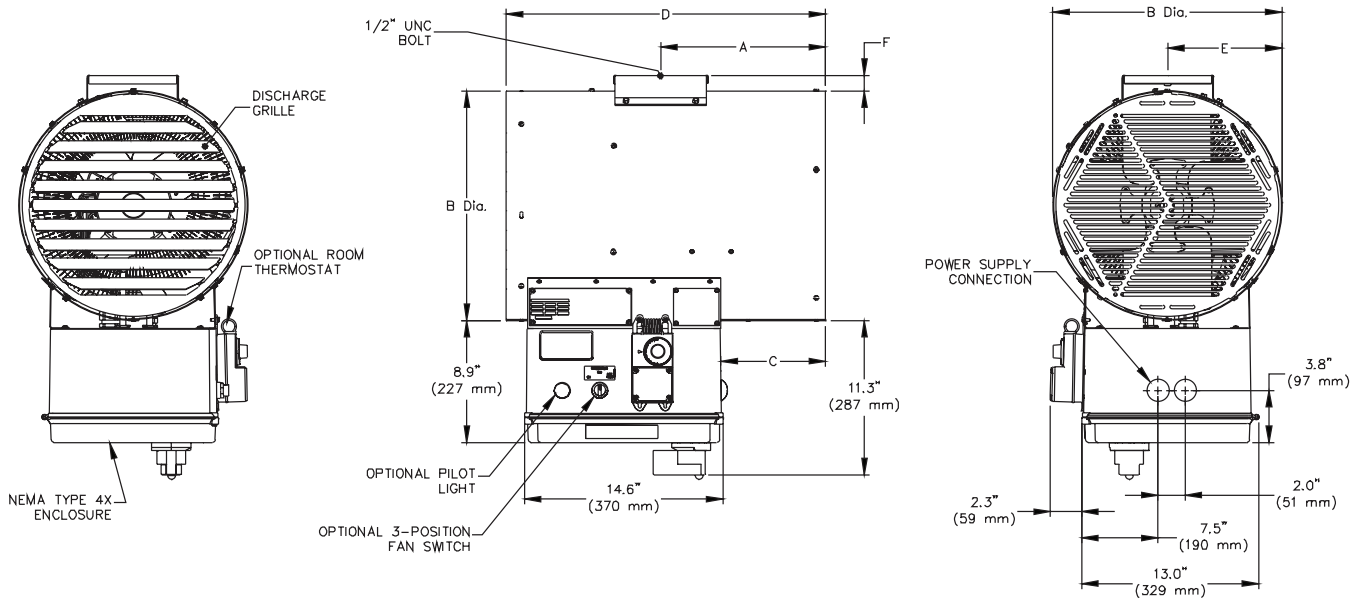

Figure 1
WARNING. To prevent risk of fire, install heater according to minimum clearances stated in Figure 1.
1. Ensure there are no obstructions that may impede the heater's air inlet or discharge (see Figure 1 for minimum clearances).